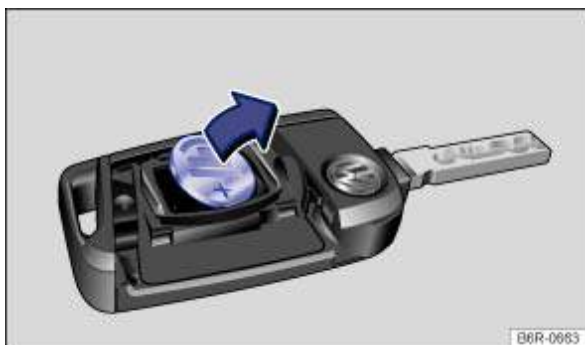

Fig. 25 Vehicle key: removing the battery
- Using a suitable thin object, lever the battery out of the battery compartment → *Fig. 25*.
- Insert the new battery as shown → *Fig. 25* and push it into the battery compartment against the direction of the arrow → .